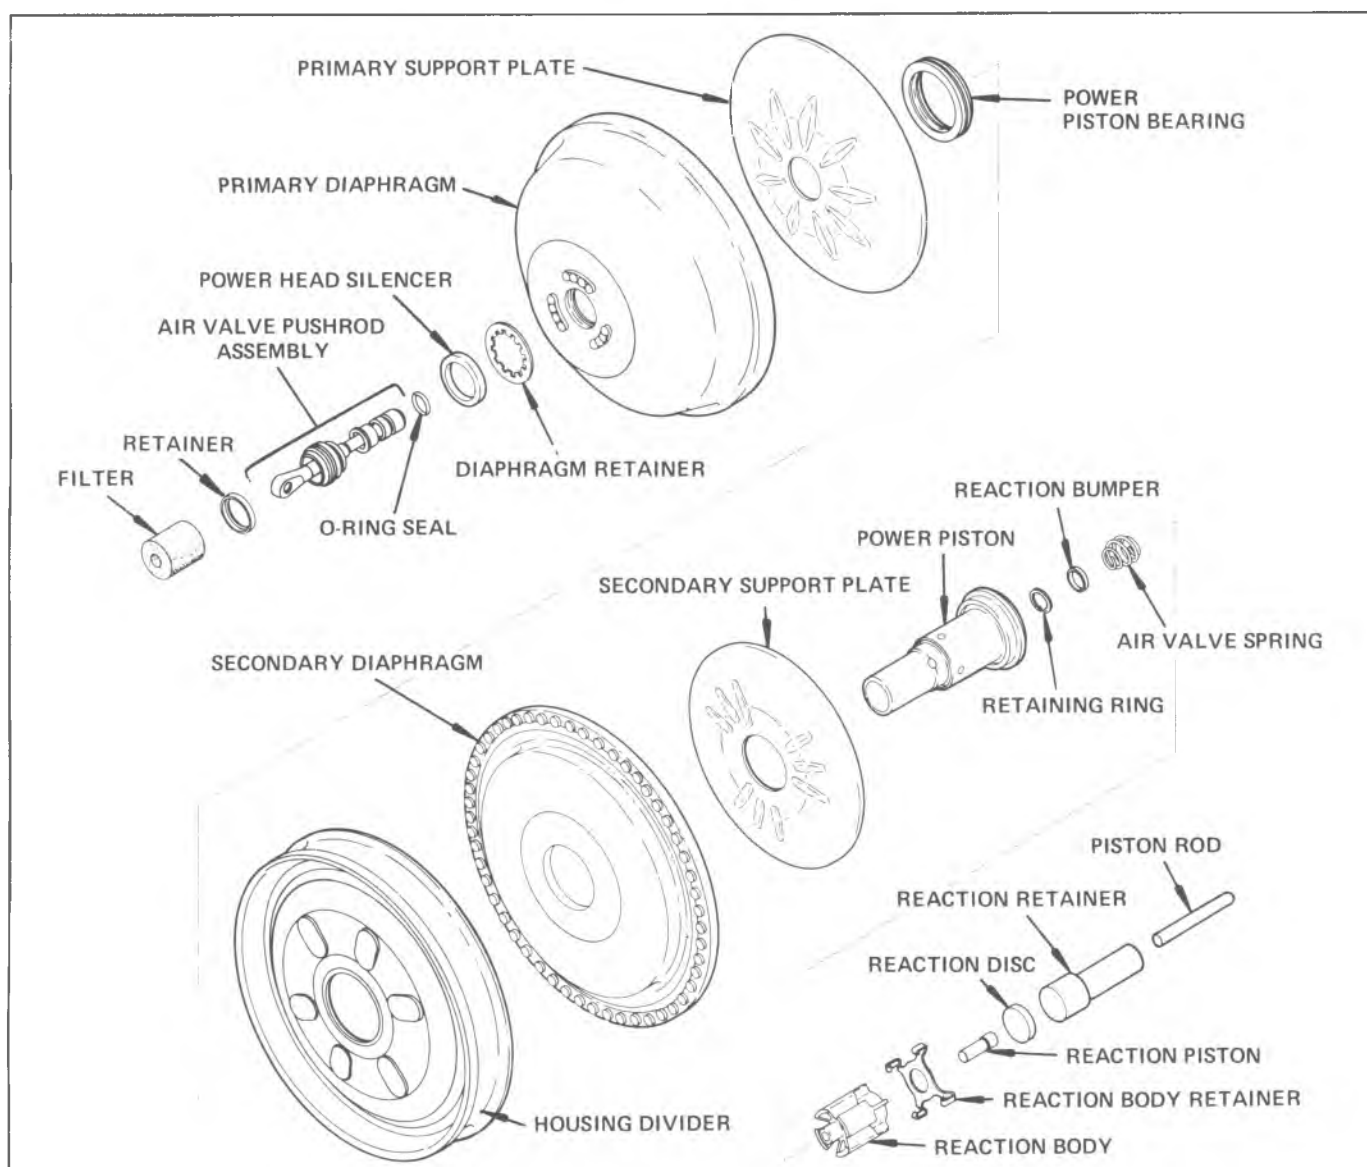

Fig. 5-3A--Power Piston Group--Explode
**Power Piston Group (Fig. 5-3A)**
### Power Piston Group (Fig. 5-3A)